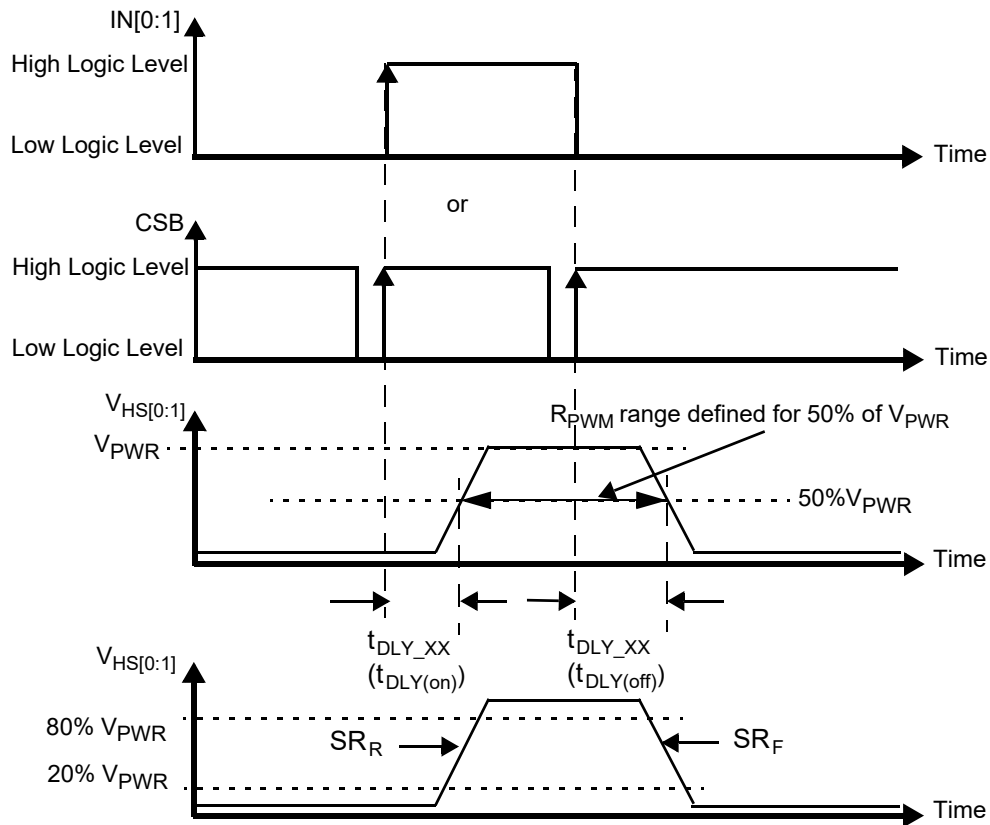
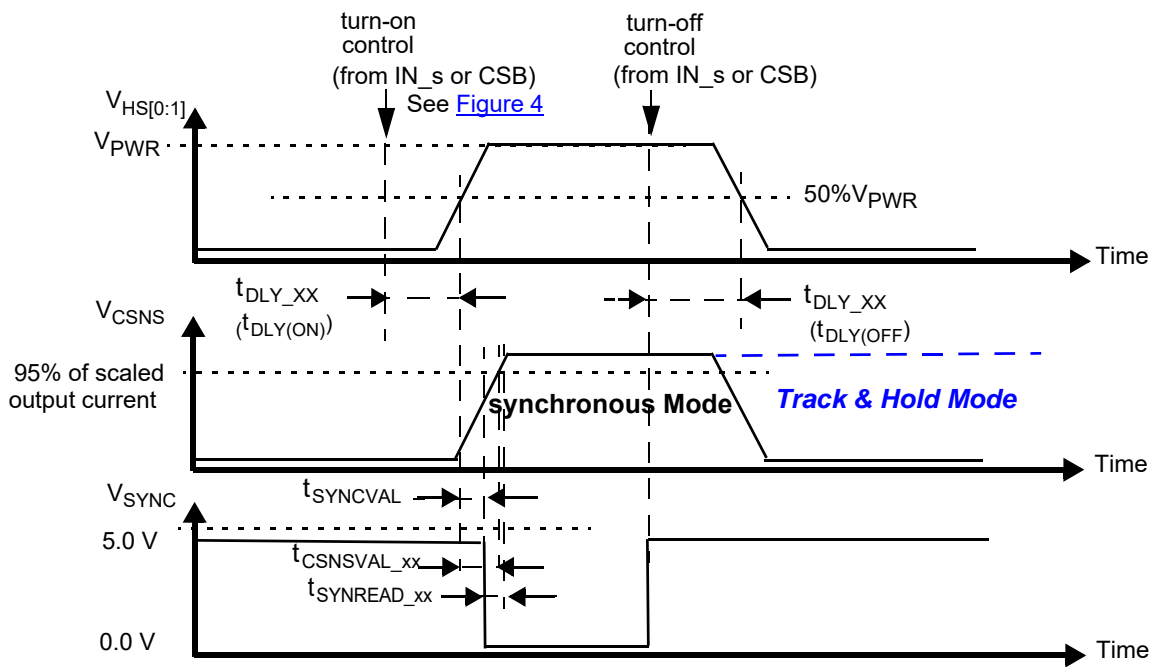

Figure 4. Output voltage slew rate and delay
Figure 9. Synchronous and Track & Hold current sensing modes: associated delay and settling times
27. Rising and Falling edge slew rates specified for a 20 % to 80 % voltage variation on a 10.0 Ω resistive load (see Figure 4).
29. Time required to switch off the channel after detection of overtemperature (OT), overcurrent (OC), SC or UV error (time measured between start of the negative edge on the FSB pin and the falling edge on the output voltage until $V(HS[0:1]) = 50\%$ of V_{PWR}).
30. Settling time ($= t_{CSNSVAL_XX}$), SYNC output signal delay ($= t_{SYNVAL_XX}$) and Read-out delay ($= t_{SYNREAD_XX}$) are defined for a stepped load current ($100\text{ mA} < I(\text{LOAD}) < IOCLX_A$ FOR $CSNS_RATIO_S = 1$, AND $300\text{ mA} < I(\text{LOAD}) < IOCLX_A_0$ FOR $CSNS_RATIO_S = 0$). (see Figure 9 and Output current monitoring \(CSNS\)).
To synchronize current sensing with an external process, the SYNC signal can be connected to a digital input of an external MCU. SYNC is asserted logic low when the current sense signal is accurate and ready to be read. The current sense signal on the CSNS pin has the specified accuracy $t_{SYNREAD_XX}$ seconds after the falling edge on the SYNC pin (Figure 9) and remains valid until a rising edge is generated. The rising edge that is generated by the SYNC pin at the turn-OFF instant (internal or external) may also be used to implement synchronization with the external MCU. Parameter t_{SYNVAL_XX} is defined as the time between the instant at the middle of the output-voltage rising edge ($HS[0:1] = 50\%$ of V_{PWR}), and the instant at which the voltage on the SYNC-pin drops below 0.4 V (V_{SOL}). The SYNC pins of different devices can be connected together to save micro-controller input channels. However, in this configuration, the CSNS function of only one device should be active at a time. Otherwise, the MCU does not determine the origin of the SYNC signal. The SYNC pin is open drain and requires an external pull-up resistor to V_{DD} .